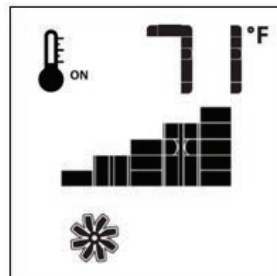

Fig. 58
If the Heater is equipped with a hot air circulating fan, the speed of the fan can be controlled by the Proflame2 System. The fan speed can be adjusted through six (6) speeds. To activate this function use the Mode Key (Fig. 45) to index to the fan control icon (Fig. 57). Use the Up/Down Arrow Keys (Fig. 85) to turn on, off or adjust the fan speed (Fig. 58). A single “beep” will confirm reception of the command.